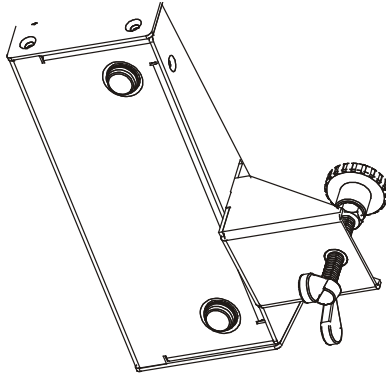

Figure 5: Inserting the Mounting Brackets through the Bracket Slits
3. Insert the two mounting brackets through the bracket slits on both sides of the **VP-747T** unit (see Figure 5).